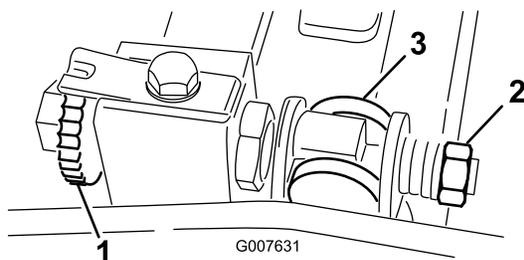

Figure 54
1. Turn the bedbar adjuster screw counterclockwise to back the bedknife away from the reel (Figure 54).
2. Back out the spring tension nut until the washer is no longer tensioned against the bedbar (Figure 54).